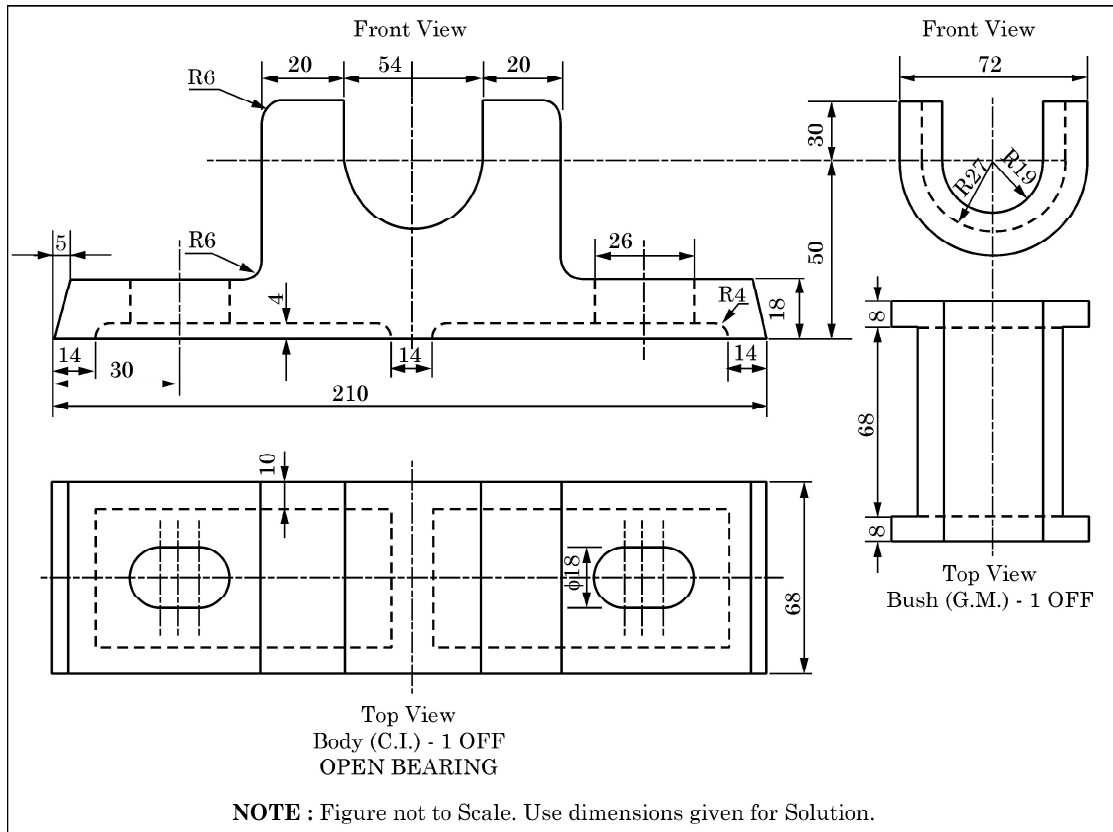

Fig. 1
23. (A) Fig. 1 shows the details of the parts of an **Open Bearing**. Assemble all these parts correctly and then draw to scale 1 : 1 its following views :